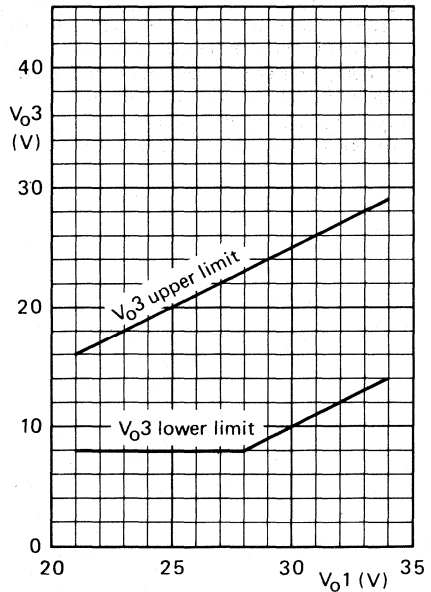

Fig. 7 Range of values for V_{O3} .
12. V_{O3} depends on the value of V_{O1} (see Fig. 7); adjustable with RA3.